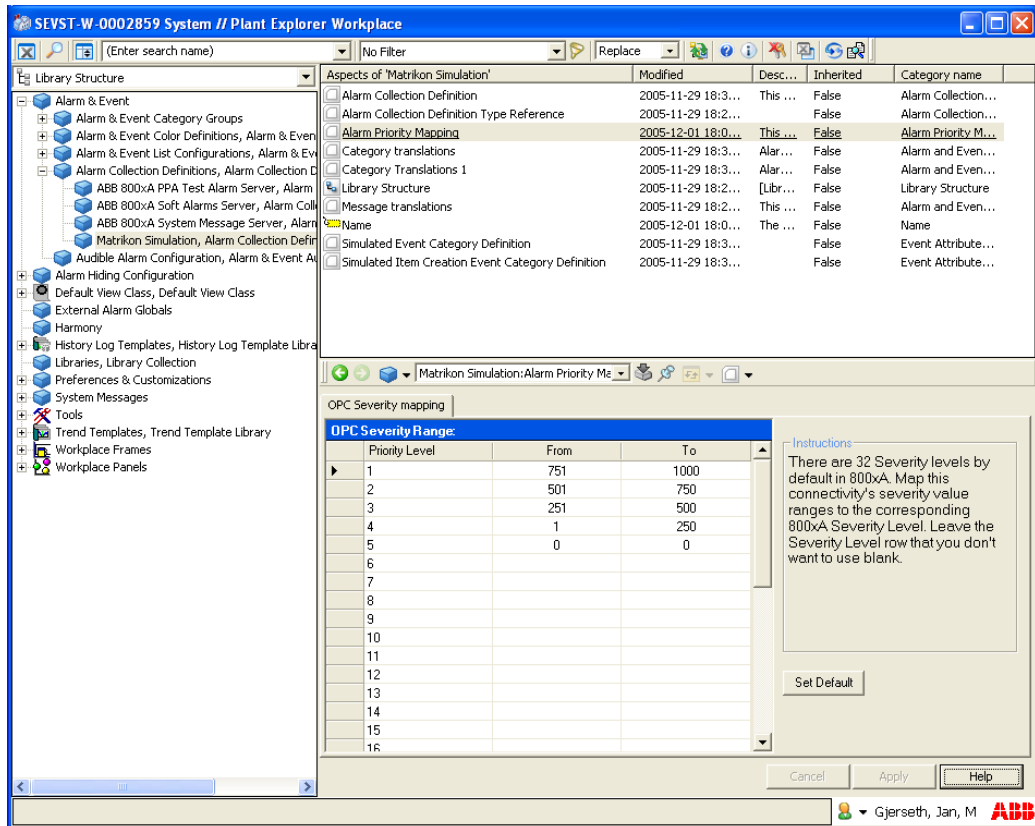

Figure 342. Alarm Priority Mapping
3. Adjust the priority mappings so that the alarm and events from the connected OPC server harmonize with the rest of the system, refer to Figure 342.